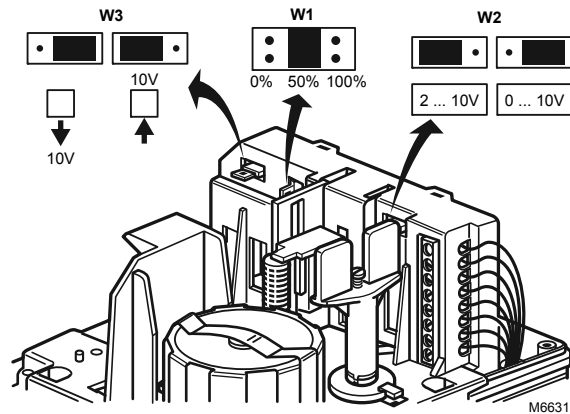

Fig. 15. Location of W1, W2, and W3 Selector Plugs.
The analog input signal (+) range is set at the factory to 0 to 10 Vdc. Changing the position of the W2 selector plug sets the range to 2 through 10 Vdc. Selector plugs W1, W2, and W3 are positioned on the back side of the printed circuit board. Refer to Fig. 15 for location of the selector plugs.
The direction of actuator action can be changed by repositioning selector plug W3, which is factory set so that the actuator drives the valve stem down on increasing signal and draws it up on decreasing signal. When the valve stem is up, the output signal from the feedback (F) function is 0 or 2 Vdc. The output of the signal does not change when W3 is used to reverse the action of the actuator (Refer to Fig. 15).